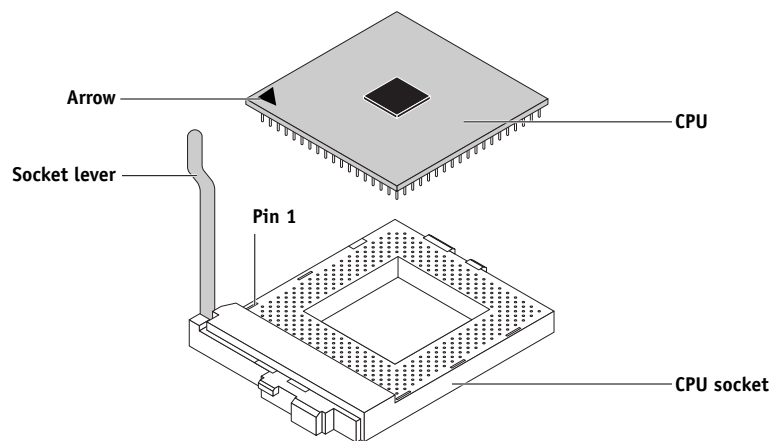

FIGURE 4-21 Replacing a CPU
5. Lift the CPU socket lever to release the CPU from the socket (see Figure 4-21 on page 4-38).
Make sure you align the arrow indicating pin 1 on the CPU with pin 1 in the CPU socket (see Figure 4-21).